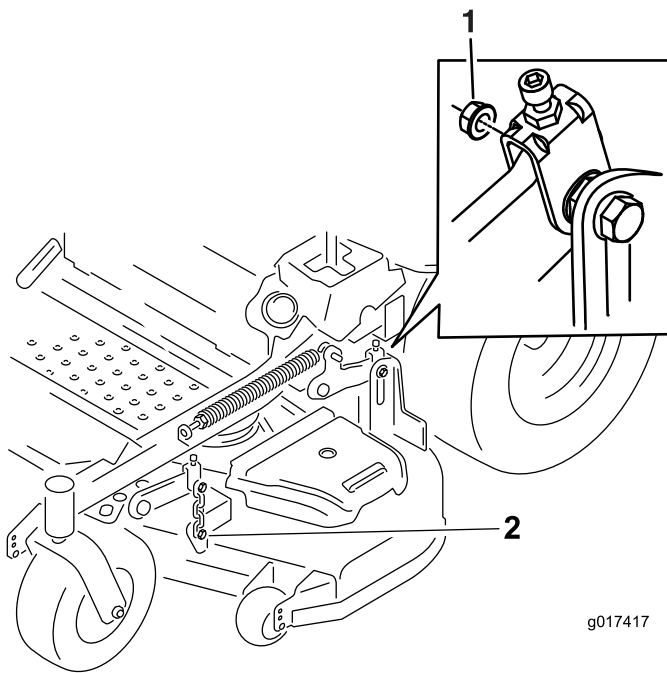

Figure 83
7. Remove and retain the hardware on both sides of the deck (Figure 83).